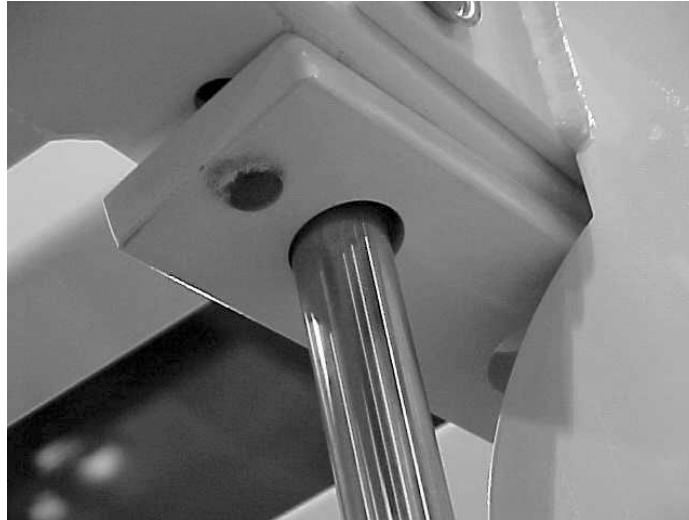

Figure 11. Bolt on the top plate.
- F. **Bolt on the top plate.** With the top plate on the guide rods, bolt on the top plate to the top of the cells as shown in Figure 11 using a 9/16" socket and combination wrench and the 3" bolts (with cap washers) that were previously inserted.